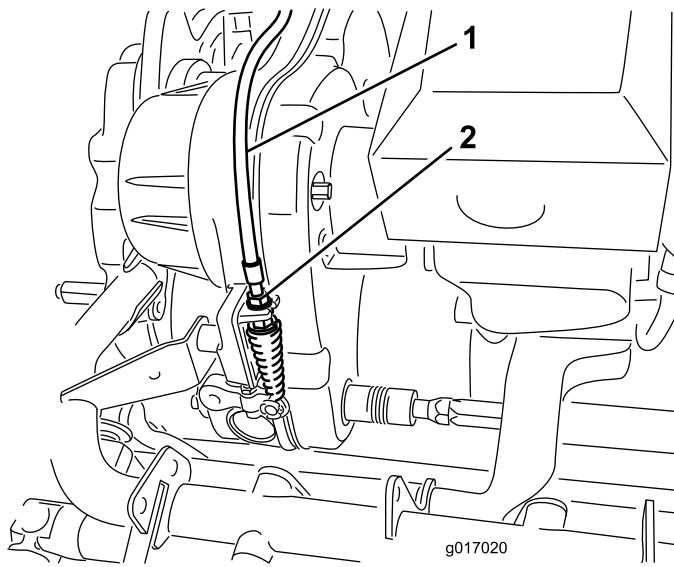

Figure 47
2. At the transmission bulkhead, adjust the reel control cable (Figure 47), to attain a spring length of 70.6-72.4 mm (2.78-2.85 inches).